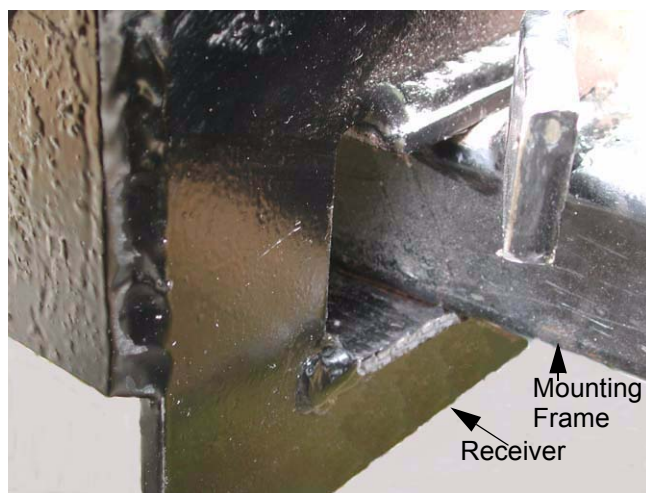

Figure 1.6
- 1.6. Test fit the receiver to the mounting frame. See Figure 1.6.